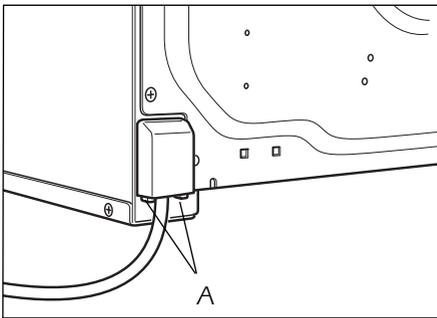

Figure 5
- Unhook the terminal board cover by inserting a screwdriver into the two hooks "A" (fig. 5).